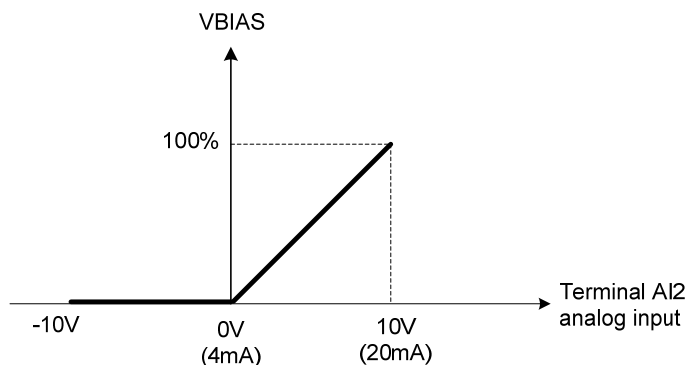

Figure 4.3.42 Bias adjustment
(4) Output Voltage Bias(VBIAS) Setting = 3)。
- . About VBIAS adjustment, please refer to Figure 4.3.42.